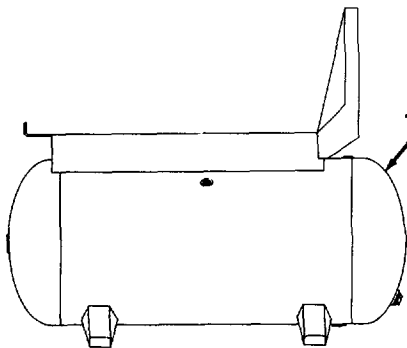

Figure 3-43. Tank, Removal.
- a. *Removal.* Remove tank (1, Figure 3-43).